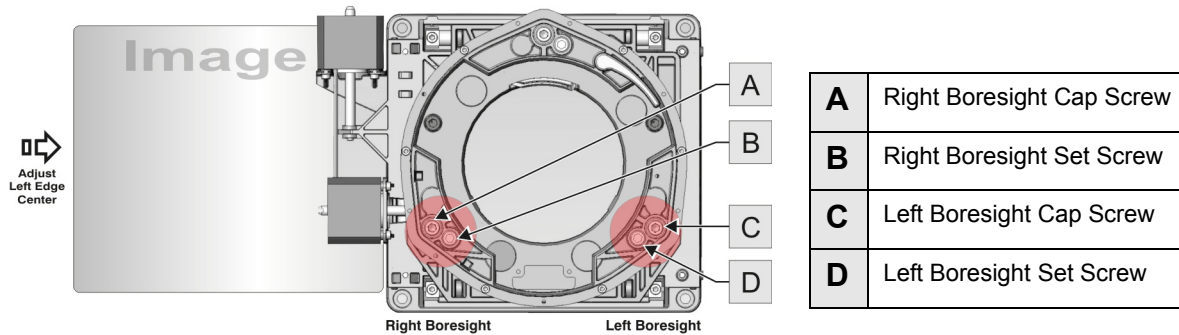

Figure 4-3 Left/Right Image Adjustment
6. Adjust both left and right horizontal adjusters by half the number of turns, in the **opposite direction** of the vertical adjust (Figure 4-3). For example, if the vertical adjust cap screws was turned 1/8 of a turn, the left and right horizontal cap screws should be turned 1/16 of a turn in the **opposite direction**.
5. Loosen the right boresight set screw with a 5mm hex key. (Figure 4-3/B).
6. Turn the right adjust cap screw 1/16 of a turn clockwise with a 5mm hex key (Figure 4-3/A) .
7. Adjust the left adjust cap screw equally in the opposite direction (Figure 4-3/C).